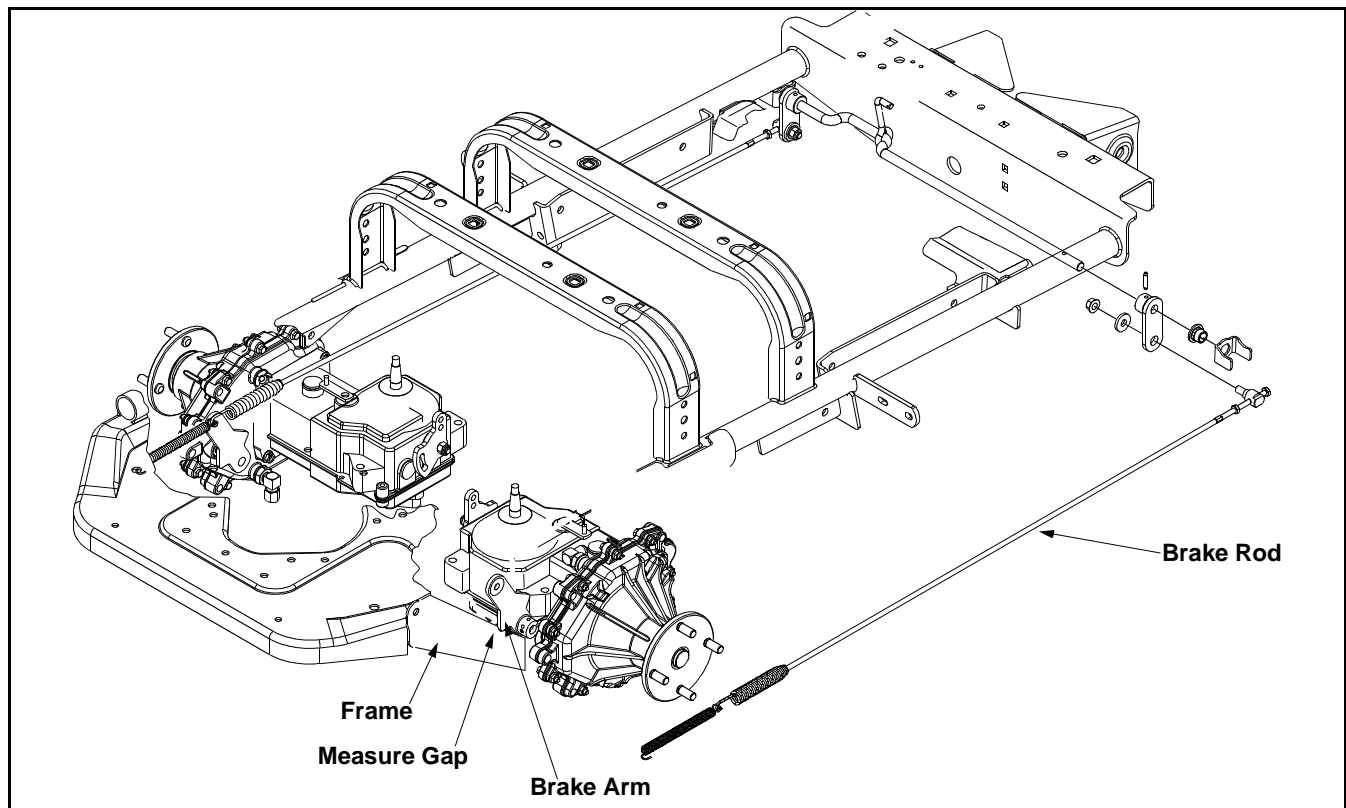

Figure 11
- From underneath the Z-Series directly behind the caster wheel pivot bar, locate the brake rods. There is one on the right and one on the left. See Figure 11.